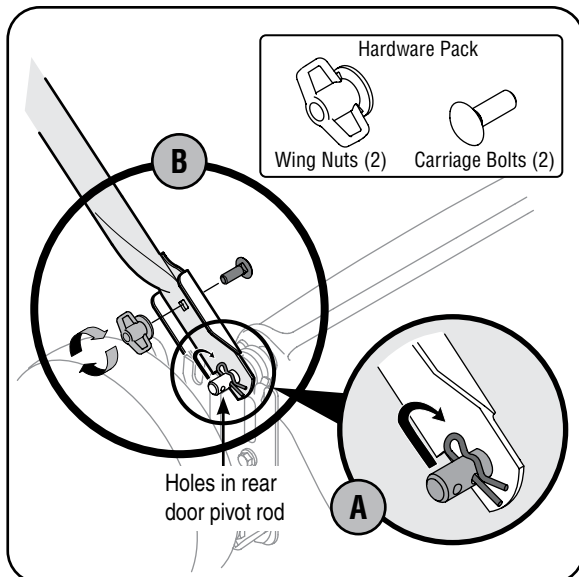

Figure 1: Attaching the lower handle to the mounting brackets using the wing nuts, bolts, and hairpin clips.
- a. Remove the hairpin clip from this hole. Using a pair of pliers, insert the clip into the hole closest to the bracket, Figure 1. Repeat on opposite side.
- b. Insert a carriage bolt from the hardware pack into the upper hole on the handle mounting bracket as shown in Figure 1. Secure with one plastic wing nut, also included in the hardware pack. Repeat on opposite side.